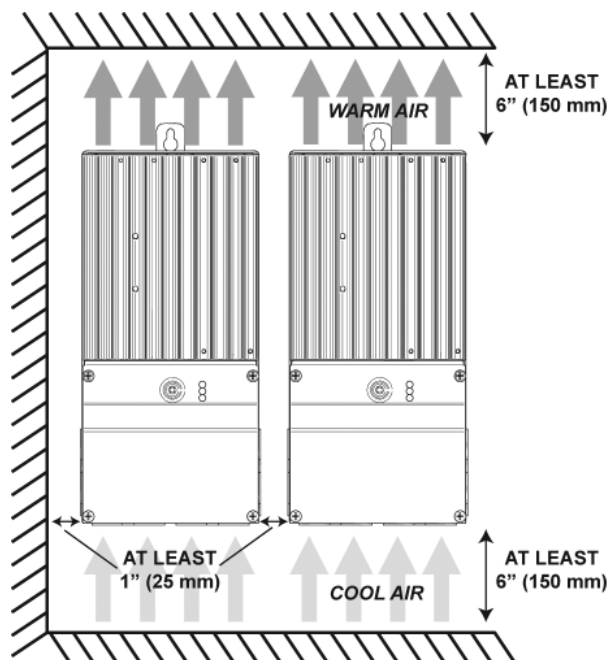

Figure 3-3. Required mounting clearance for air flow.
2. Place the TriStar MPPT on a vertical surface protected from direct sun, high temperatures, and water. The TriStar MPPT requires at least 6" (150 mm) of clearance above and below and at least 1" (25 mm) on each side for proper air flow as shown in figure 3-3 below.